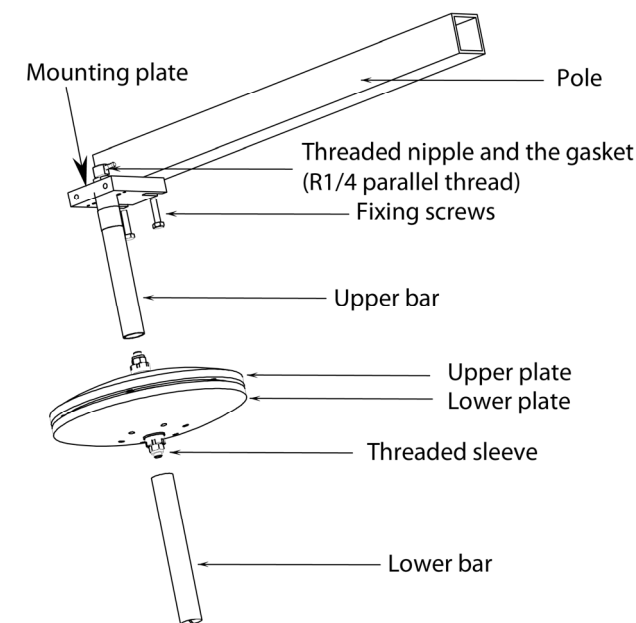

Figure 1 SPH10 Static Pressure Head
1. Loosen the two fixing screws of the pole and fix the SPH10 into the pole as indicated in Figure 1.
1. Detach the threaded nipple and the gasket (see figure 1).
Connect the barometer to the threaded nipple (Figure 1) by using a flexible, airtight tube with an inner diameter of 4 mm. To prevent condence water accumulation in the tube, make sure the entire length of the tube goes downwards from the barometer to SPH10.